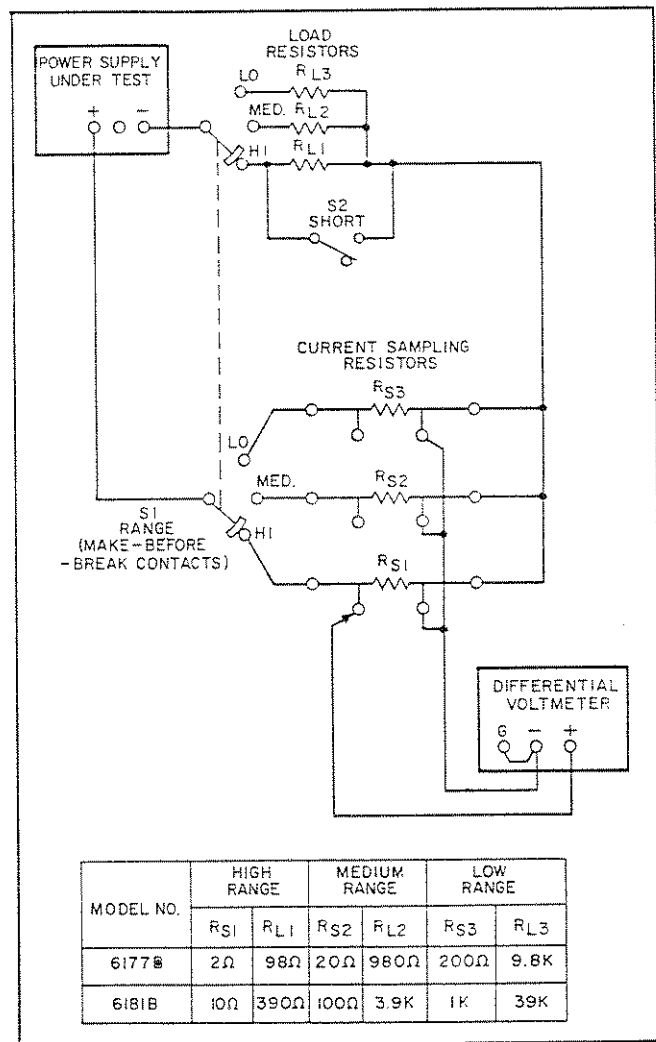

Figure 5-3. Output Current Test Setup
5-9 The monitoring device is connected across the sampling resistors as shown in Figure 5-3. As indicated in this illustration neither output terminal of the power supply is grounded and the measuring device case is connected to the junction of the load and sampling resistors. This arrangement prevents ground loop paths and shunt current paths. Notice that shunt resistance paths between the external switches and ground can exist. However, since the shunt resistance appears across only one of the external resistors and not across the entire output terminals of the supply, the performance of the supply is not degraded.
- Connect test setup shown in Figure 5-3, leaving switch S2 open throughout test.
- Connect test setup of Figure 5-3 except connect the differential voltmeter between the guard (terminal A0) and - output terminals (see Figure 3-7 for voltmeter connections).
- Connect test setup shown in Figure 5-3.
a. Utilize test setup shown in Figure 5-3, except connect variable auto-transformer between input power source and power input to supply. Leave switch S2 open throughout test.
a. Use test setup of Figure 5-3, except connect ac voltmeter across sampling resistors instead of differential voltmeter. Ensure that power supply output is floating to avoid ground loops.
FOR VALUES OF LOAD RESISTORS (R_L AND R_S) SEE FIGURE 5-3 OR TABLE 5-1. FOR HIGH FREQUENCY MEASUREMENTS, LOW INDUCTANCE RESISTORS SHOULD BE USED.